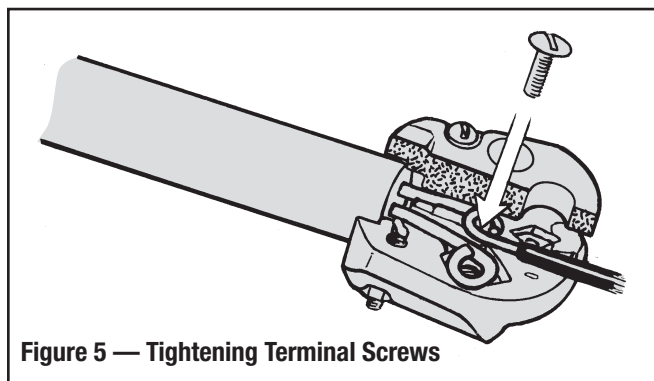

Figure 5 — Tightening Terminal Screws
- Assemble terminal, screw and wire as shown in Figure 5.